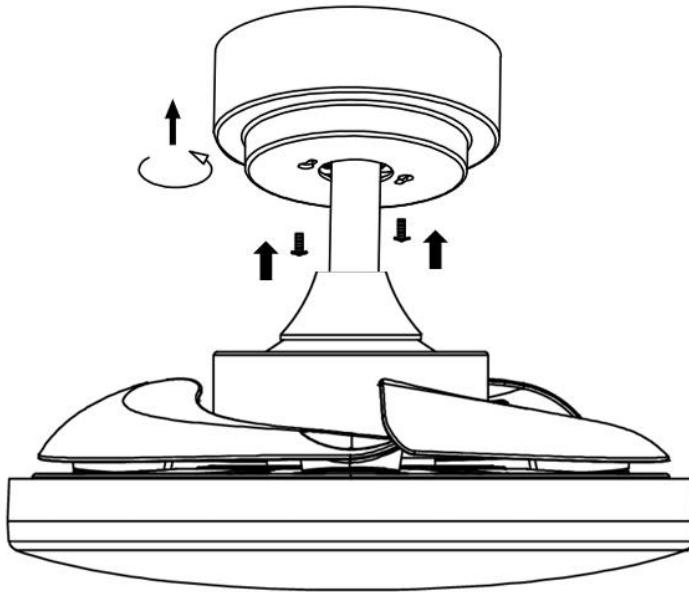

Fig. 8
- Loosen the 2 screws at the bottom of the mounting bracket. (Fig.8)